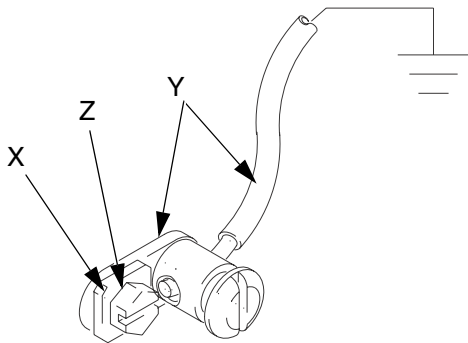

FIG. 4: Ground Screw (King air motor only)
**If you have the ground screw (Z) shown in FIG. 4 (King air motor only),** you need to order part no. 222011 ground wire, ring terminal, and clamp assembly (Y). To install 222011, remove the ground screw (Z) and insert it through the eye of ring terminal (X), then tighten ground screw back into air motor as shown in FIG. 4. Connect the other end of the wire to a true earth ground.